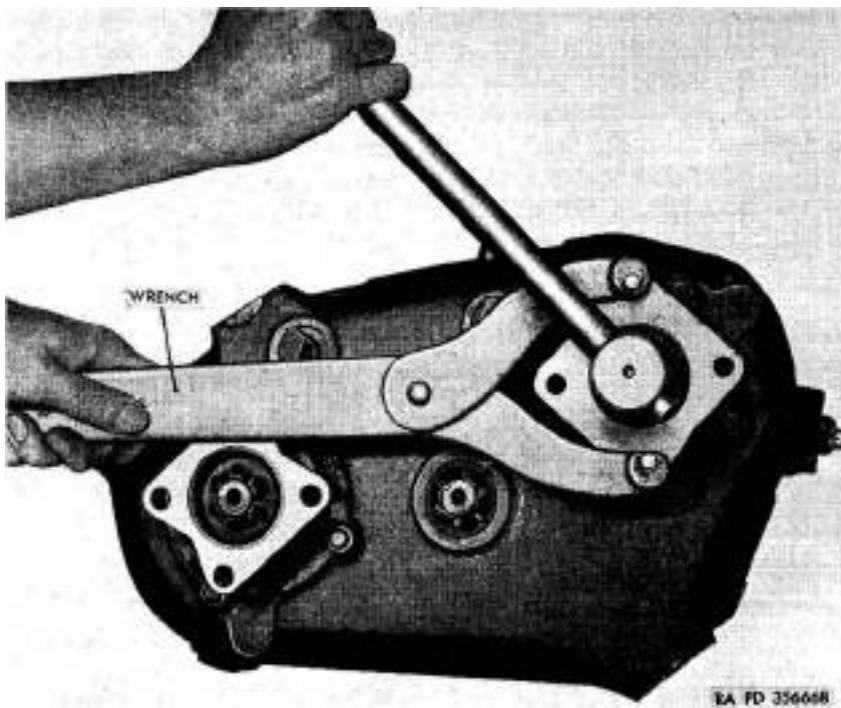

Figure 124. Holding companion flange with wrench—41-W-1277-10.
- (1) Remove $\frac{1}{8}$ x 1% cotter pin (C) from $\frac{7}{8}$ -16NC slotted nut (D).
- (2) Hold companion flange with a wrench 41—W-3277-40 (fig. 124) and loosen slotted nut. Remove nut and 29/32 ID, 1 $\frac{3}{4}$ OD plain washer (E).